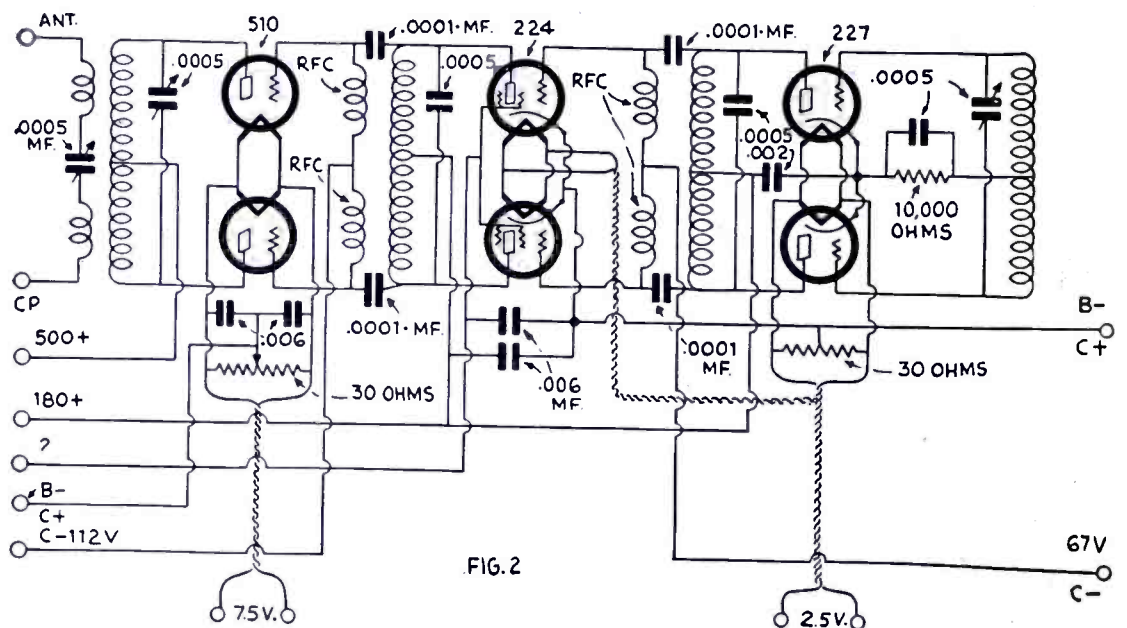

Fig. 2—Circuit for an efficient push-pull transmitter. 75+ volts is applied on the shield grids of the 2-224's.
A. 2. The circuit is given (Fig. 2). In order to obtain satisfactory frequency stability, the capacity of the oscillator tuning condenser must be rather high—.00025 mfd. for 40 meters and .00015 mfd. for 20 meters; if the tubes will oscillate with higher capacities by all means use them. That of the tuning condensers for the power and buffer stages should be as low as possible—about .00005 mfd. Higher capacities here will reduce the output.